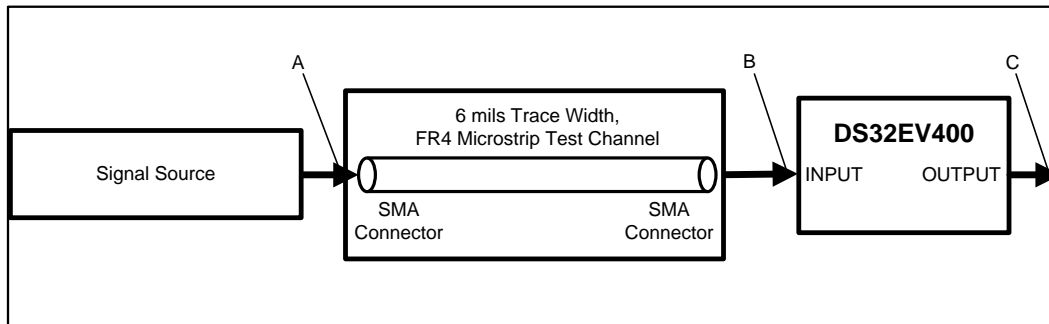

Figure 1. Test Setup Diagram
(6) Measured with clock like {11111 00000} pattern.
(7) Specification is ensured by characterization and is not tested in production.
(8) Deterministic jitter is measured at the differential outputs (point C of Figure 1), minus the deterministic jitter before the test channel (point A of Figure 1). Random jitter is removed through the use of averaging or similar means.
(9) Random jitter contributed by the equalizer is defined as  $\sqrt{J_{OUT}^2 - J_{IN}^2}$ . JOUT is the random jitter at the equalizer outputs in ps-rms, see point C of Figure 1; JIN is the random jitter at the input of the equalizer in ps-rms, see Figure 1.